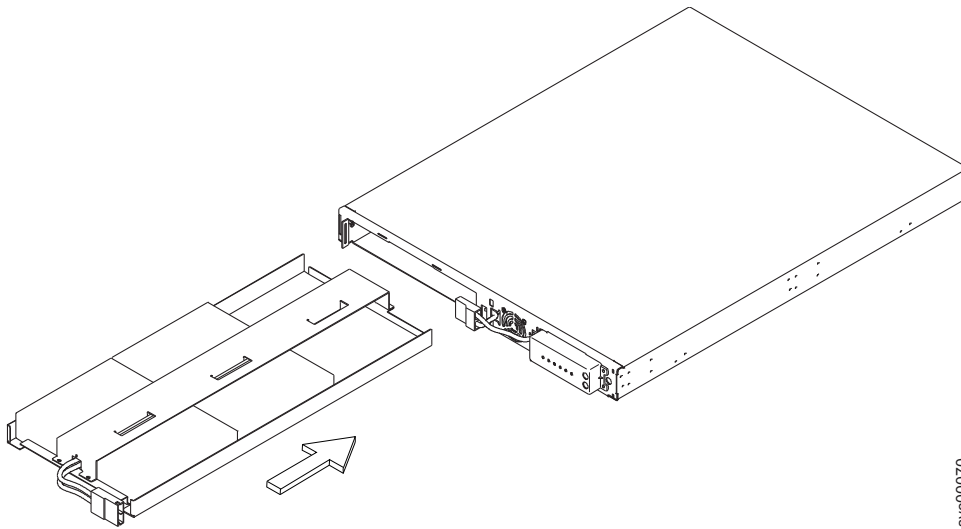

Figure 361. Replacing the 2145 UPS-1U battery
1. Slide the battery into the 2145 UPS-1U, as shown in Figure 361.